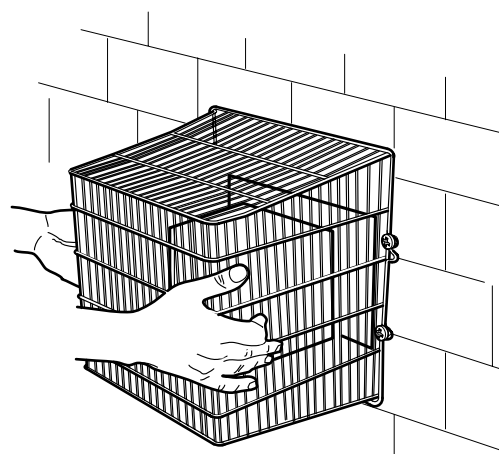

Fig. 30
- 14 Fit the terminal guard over the flue terminal and secure using the screws and plugs supplied. See Fig. 30.